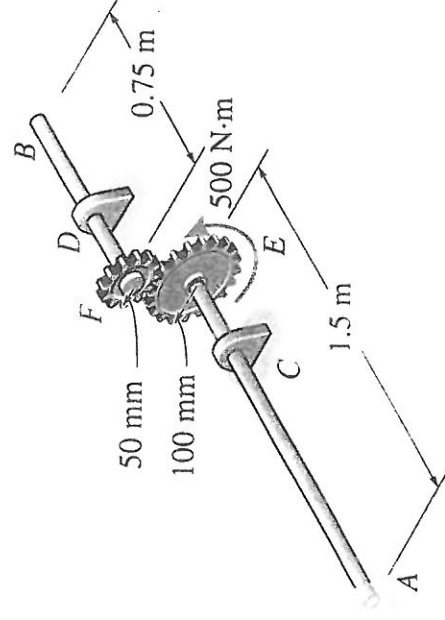

Fig. 5
5. A shaft ACE and a shaft BDF having diameter of 25mm shown in Fig.5 are connected using the gear set fixed to their ends at E and F. The radii of the gears are 100mm and 50mm respectively. The other ends of the shafts are attached to fixed supports at A and B. The shafts are also supported by bearing at C and D, which allow free rotation of the shafts along their axes. A torque of 500 N·m is applied to the gear at E, the shear modulus of the shaft G is 75 GPa,